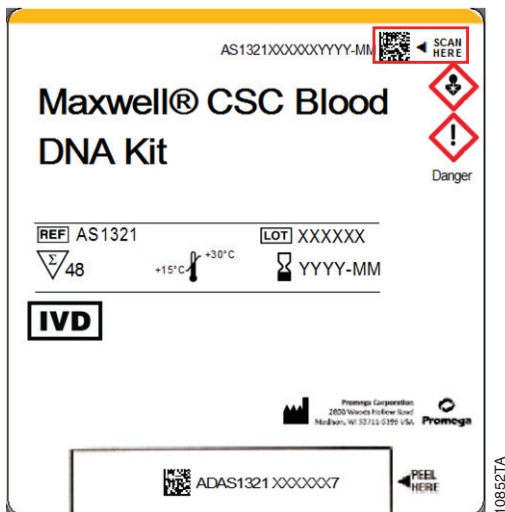
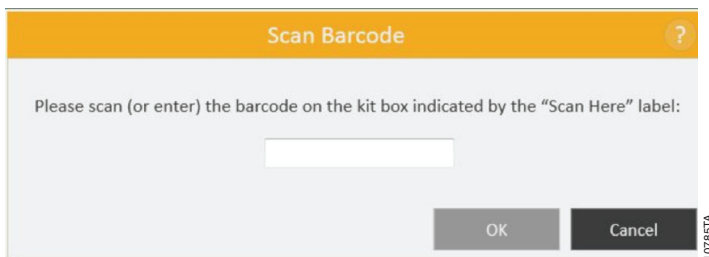

Figure 46. Kit label indicating bar code to scan. Shown in the red box is the bar code to scan on the kit label for starting a purification run.
Figure 47. Scan Bar Code screen. Scanning the bar code automatically selects the protocol on the Maxwell® CSC Instrument.
2. You will be presented with a screen that will ask you to scan the bar code on the kit box. You can scan the bar code on the kit box indicated by the *Scan Here* label (Figure 46). Alternatively, touch the **text box** (Figure 47) to manually enter the bar code information using the keyboard. Maxwell® CSC accepts bar codes in the following format: Product Catalog Number, Kit Lot Number, Expiration Date in year-month format (example: AS13213221872012-05, where the product catalog number is AS1321, the kit lot number is 322187 and the expiration date is 2012-05). Only if the bar code entered has this format will the **OK** button become active. Once the bar code is correctly entered, touch the **OK** button to get to the Cartridge Setup screen. You can touch the **Back** button to return to the Home screen. Scanning or entering the bar code automatically selects the protocol to be run.